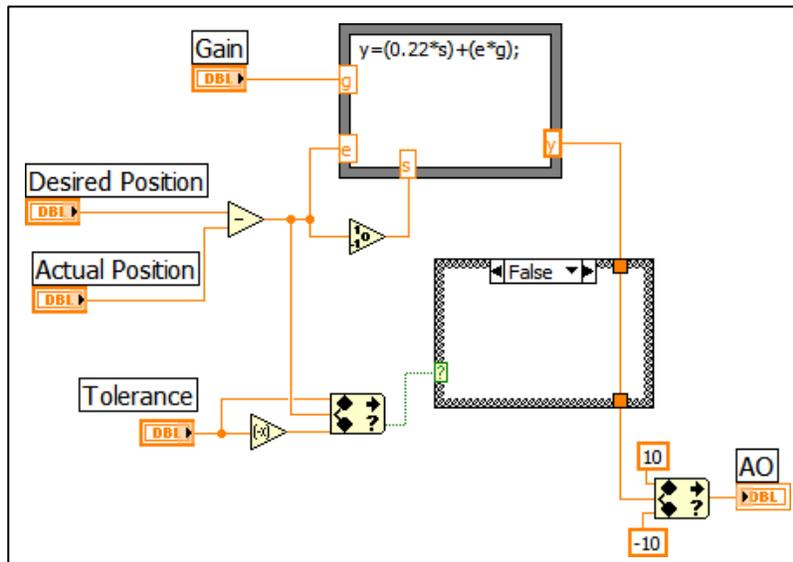

Fig. 6. Feedback VI when Cylinder Position is *not close* to Desired Position
- During closed loop control, the valve command is determined by the *Feedback* subroutine (VI). The valve command is found by **multiplying** the proportional controller **gain** by the position **error**. The error is calculated as the difference between the **desired** and **actual** positions (in inches).
- Once the position is within the **tolerance** of the desired position, the valve command is set to **zero**, keeping the system from trying to make **small corrections** to the position. *Figs 6 and 7* show the feedback block diagram when the system **is** and **is not** within the **tolerance** of the desired position.